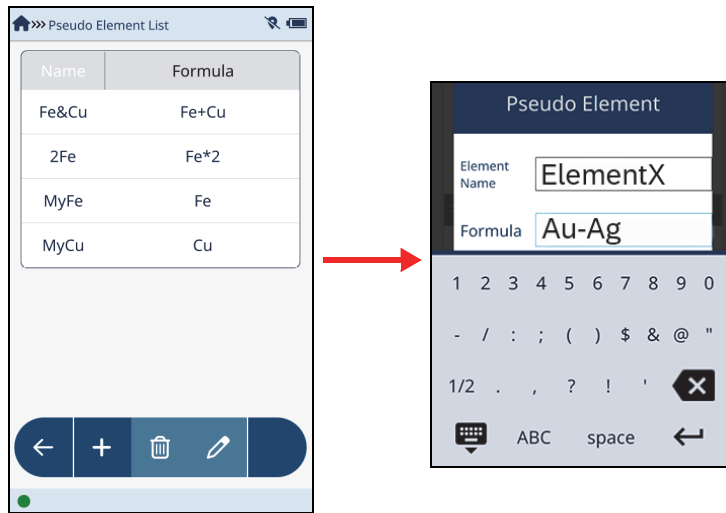

Figure 2-48 Pseudo Element List screen (left) and dialog box (right)
1. On the **Pseudo Element Edit** screen, tap the **Edit List** button () to open the **Pseudo Element List** screen (see Figure 2-48 on page 63, left).
2. Tap the **Add** button () to name and build a new equation in the **Pseudo Element** dialog box (see Figure 2-48 on page 63, right).